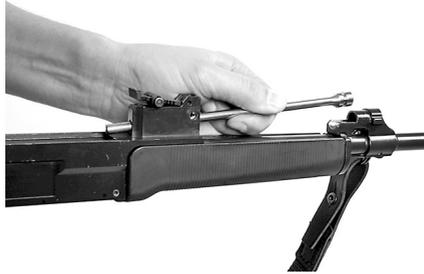

Fig. 30 *Removing the piston*
e) **Removing the piston** (Fig. 30): Hold the rifle from below with the left hand on the lower hand guard. Grasp the piston with the right hand and push it backwards to a stop against the action of the piston spring. Then tilt the piston upwards from the gas cylinder. In this way, the piston head comes above the upper wall of the gas cylinder; by pulling the piston